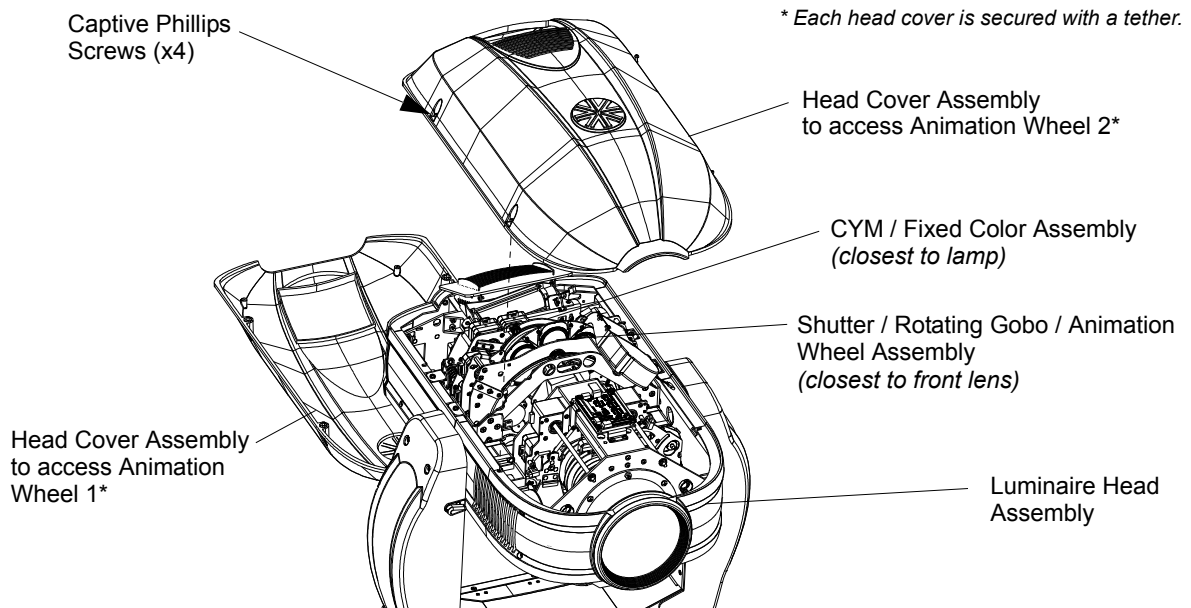

Figure 2-10: Replacing Animation Wheels
- a. For Animation Wheel 1 (closest to the rear of luminaire), remove head cover assembly as indicated in Figure 2-10 by loosening four captive screws and lifting cover away from luminaire head. Note, head cover is attached by a safety tether.
- b. For Animation Wheel 2 (closest to the front of luminaire), remove head cover assembly as indicated in Figure 2-10 by loosening four captive screws and lifting cover away from luminaire head. Note, head cover is attached by a safety tether.